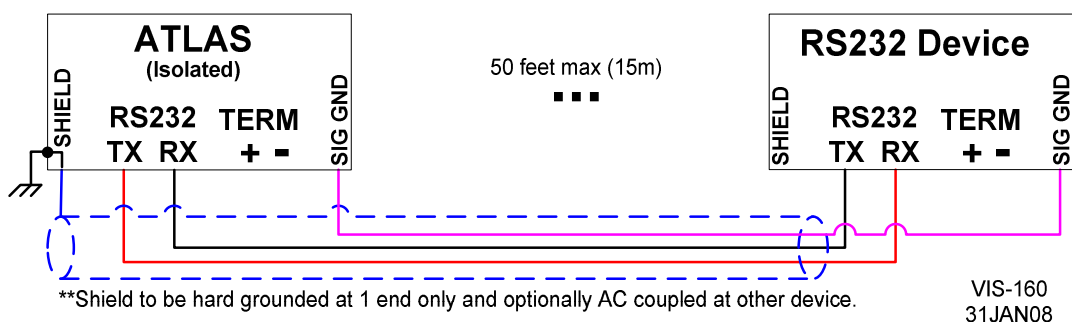

Figure 4-22. Wiring Example—RS-232 Interface to the SmartCore CPU A5200 Board
- **RS-422.** Refer to Figure 4-22 for RS-422 wiring. The transmit data pairs (422T+ and 422T-), receive data pairs (422R+ and 422R-), and signal ground (SIG GND) must be properly connected as shown. In addition, the shield (SHLD) should be connected in at least one location. Only the receiver at each end of the network should be terminated with a resistor.